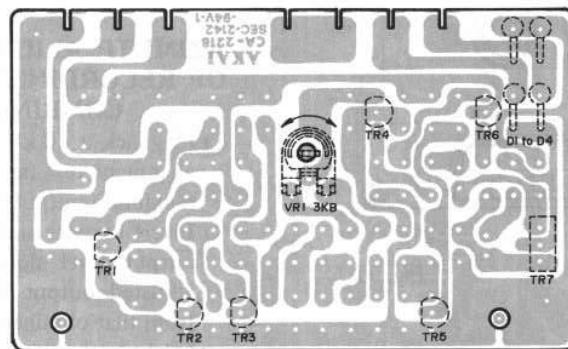

Fig. 10 Servo P.C Board
8. TAPE SPEED ADJUSTMENT (See Fig. 10)
Playback a 1,000 Hz pre-recorded test tape and adjust Servo P.C Board (CA-2218) semi-fixed resistor VR1 (3 k Ω) shown in Fig. 10 to obtain a tape speed of 1,000 Hz \pm 0.5%.